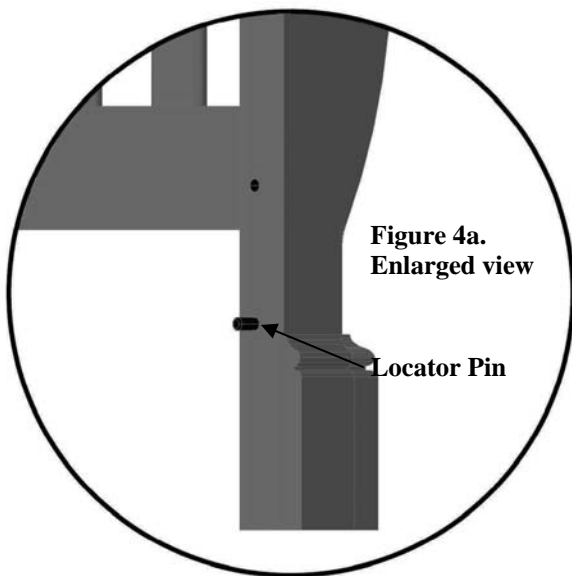

Figure 4a.
- Insert the (2) metal locator pins in the lower hole of the head board post as shown in Fig 4a.